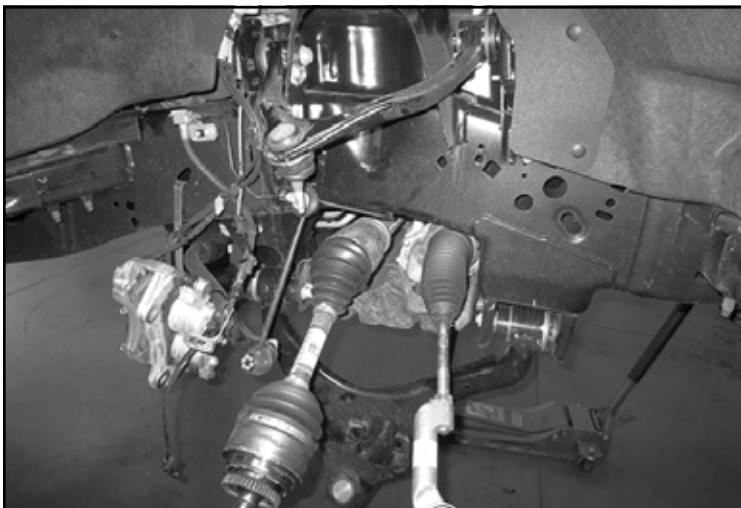

FIGURE 16 - STEP 12
12. Loosen the lower control arm pivot bolts so the arm can swing down freely. Then, Remove the three upper strut nuts and remove the factory strut from the vehicle. **SEE FIGURE 16**